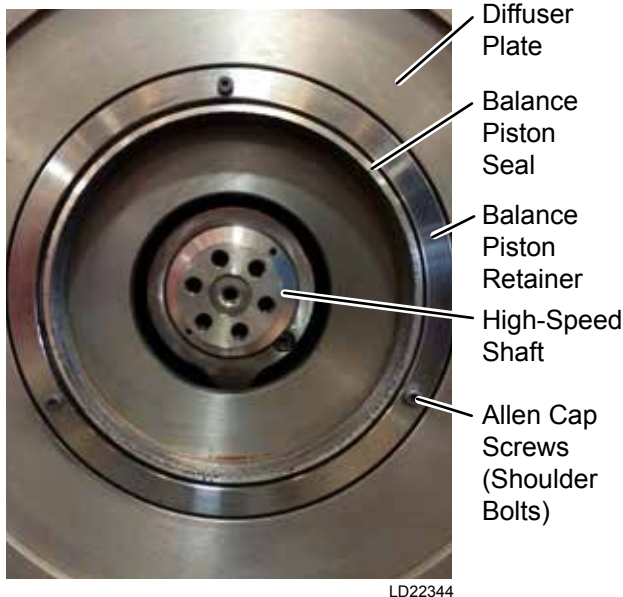
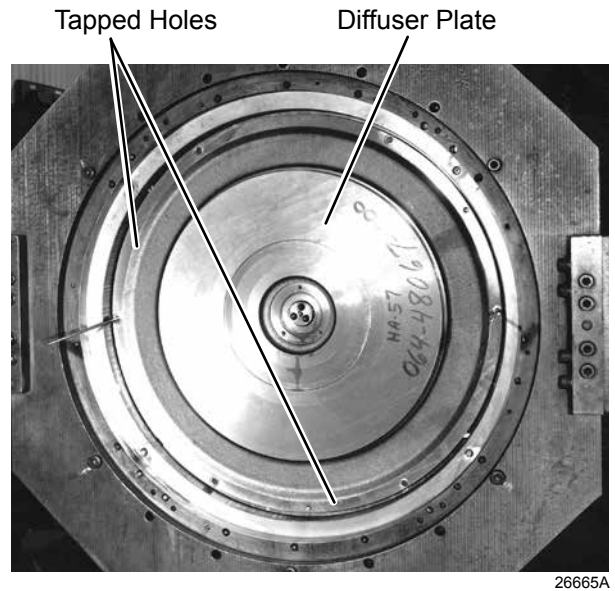

FIGURE 19 - BALANCE PISTON SEAL
FIGURE 20 - REMOVING DIFFUSER PLATE
1. Remove the (3) socket head cap screws (shoulder bolts) that fasten the balance piston retainer and balance piston seal to the plate (see *Figure 19 on page 27* and *Figure 20 on page 27*). Remove the balance piston retainer and balance piston seal.
2. Remove (2) of the (6) cap screws that secure the diffuser plate to the bearing housing. Insert guide pins where cap screws were removed. Loosen the (4) remaining cap screws (see *Figure 20 on page 27*). Insert jacking screws into holes provided to loosen diffuser plate from bearing housing.